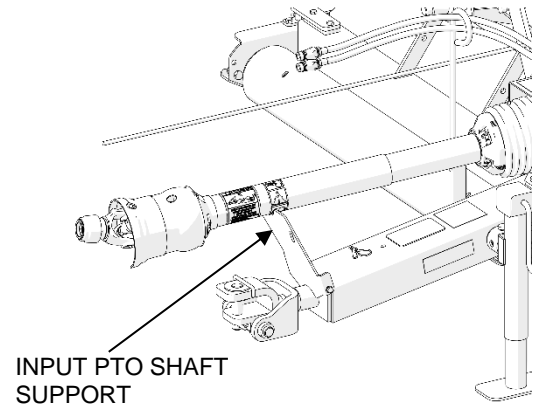

Figure 10
- 10) Remove input shaft from tractor (collapsing sliding shaft) and stow on supplied support bracket (Figure 10).